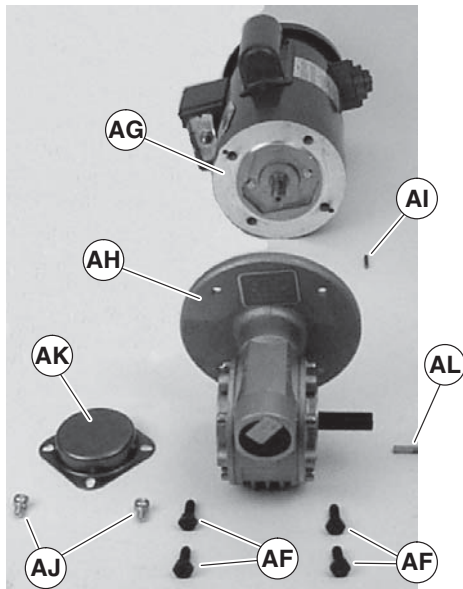

Figure 24
6. Remove four screws (Figure 24, item AF). Detach motor (AG) from gear reducer (AH). Retain motor output shaft key (AI).
12. With key (Figure 24, item AI) in keyway, slide motor (AG) and gear reducer (AH) together. Install screws (AF) and tighten.